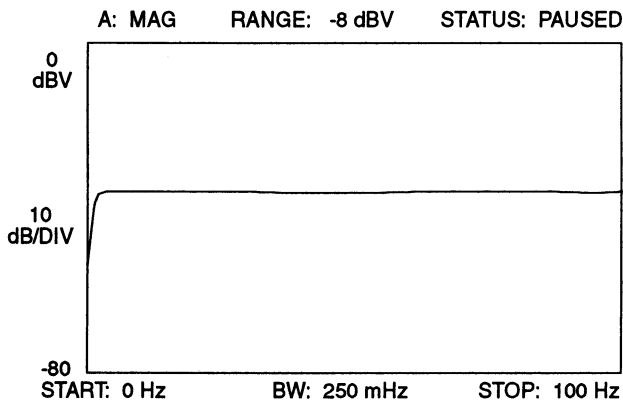

Figure 11. Mod Comp Frequency Response Waveform
- Step 7. Compare the trace on the DSA with Figure 11. The frequency response curve may not be exactly the same, but it is adjusted later in this procedure. Your main concern is that it is not a noisy trace.
- Step 9.** Compare the trace on the DSA with Figure 11. The frequency response curve may not be exactly the same, but it is adjusted later in this procedure. Your main concern is that it is not a noisy trace.